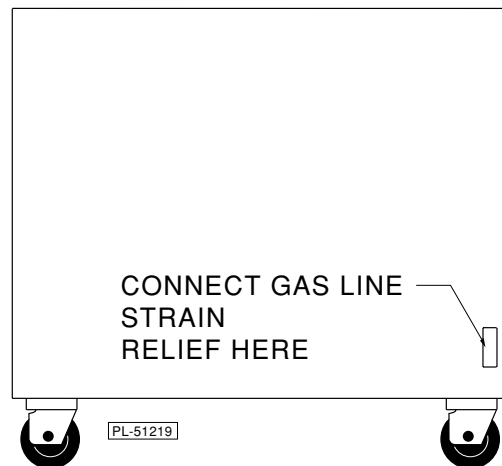

Fig. 1
2. Provide a restraining device for the gas line to limit the movement of the range without depending on the connector and the quick-disconnect device or its associated piping to limit the range movement. Attach the strain relief to the rear of the range (Fig. 1).